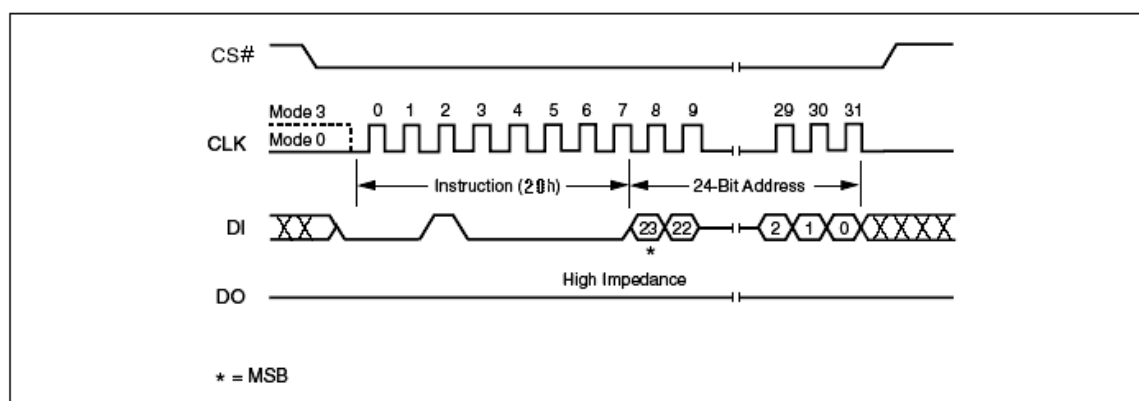

Figure 27. Sector Erase Instruction Sequence Diagram
The instruction sequence is shown in Figure 27. Chip Select (CS#) must be driven High after the eighth bit of the last address byte has been latched in, otherwise the Sector Erase (SE) instruction is not executed. As soon as Chip Select (CS#) is driven High, the self-timed Sector Erase cycle (whose duration is t_{SE}) is initiated. While the Sector Erase cycle is in progress, the Status Register may be read to check the value of the Write In Progress (WIP) bit. The Write In Progress (WIP) bit is 1 during the self-timed Sector Erase cycle, and is 0 when it is completed. At some unspecified time before the cycle is completed, the Write Enable Latch (WEL) bit is reset.